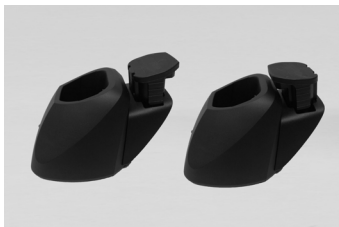

Fig. 25
1. Insert the battery as shown (Fig. 25), with the contacts facing downwards. Either insertion orientation can be used.